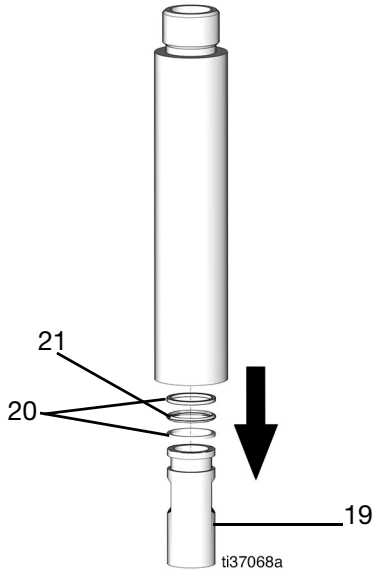

FIG. 41
- 24. Remove the piston bushing (19) (FIG. 41).
- 25. Remove the two (2) backup rings (20) and the o-ring (21) from the piston bushing (19) (FIG. 41).